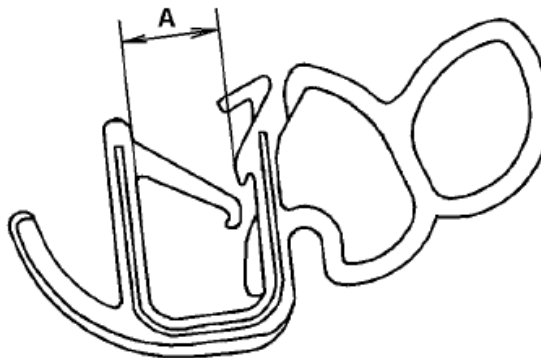

Fig. 2
- After removal, if it turned out that the cross section is deformed and the dimension A as shown in Fig. 2 exceeds 8.0mm, adjust the dimension A to 8.0mm or less before assembly.